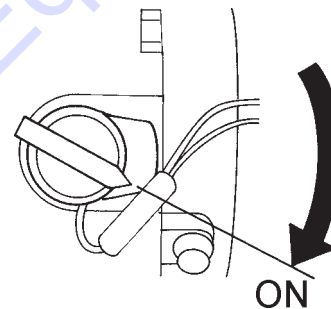

Figure 11. Engine On/Off Switch (ON)
4. Place the **engine ON/OFF switch** (Figure 11) in the "**ON**" position.
1. Place the **main circuit breaker** (Figure 11) in the **OFF** position.